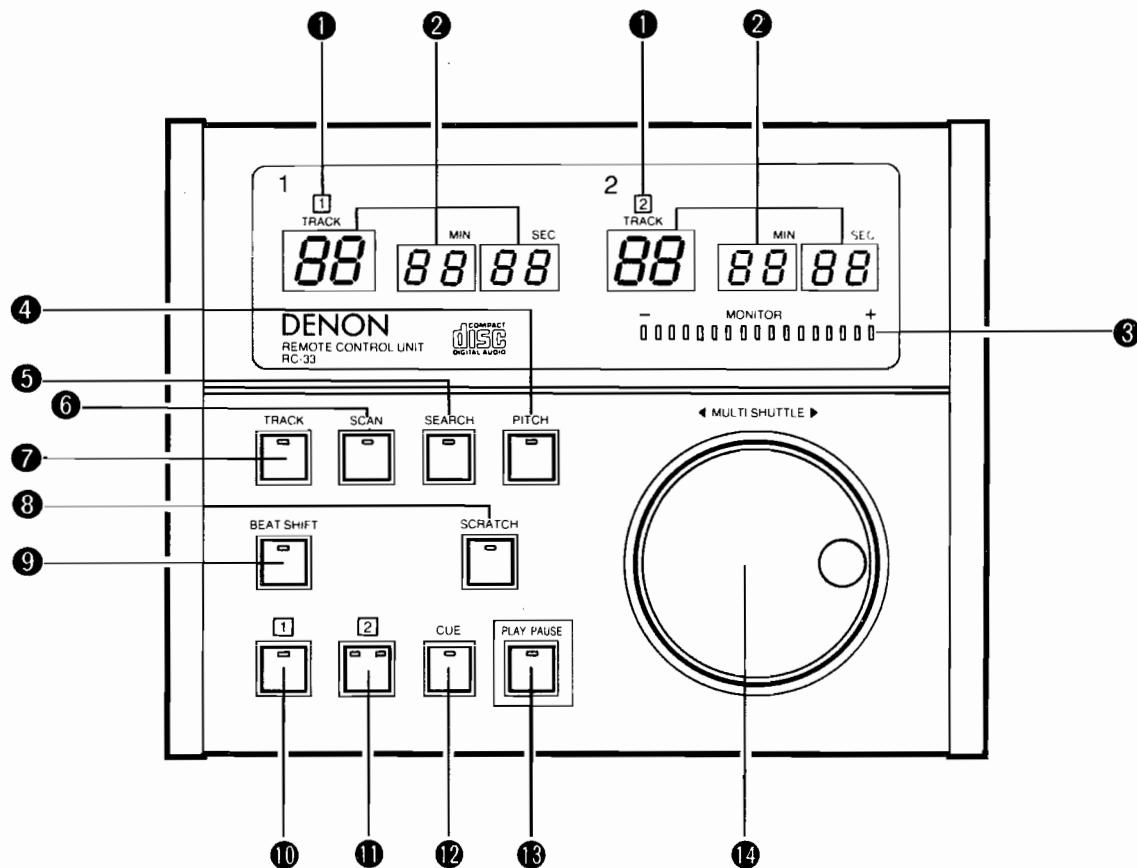

Figure 10
All operations on either CD-1 or CD-2 are possible using the RC-33. The CD player is selected using the ① and ② buttons (⑩ and ⑪ in Figure 10). When selected, the LED(s) on the button and the corresponding player select indicator at the top of the RC-33 (⑬ in Figure 10) lights. When the power is first turned on or after CDs are loaded, neither player is selected, so operation is not possible from the RC-33. First press a CD select button whose LED is flashing to select the CD player.